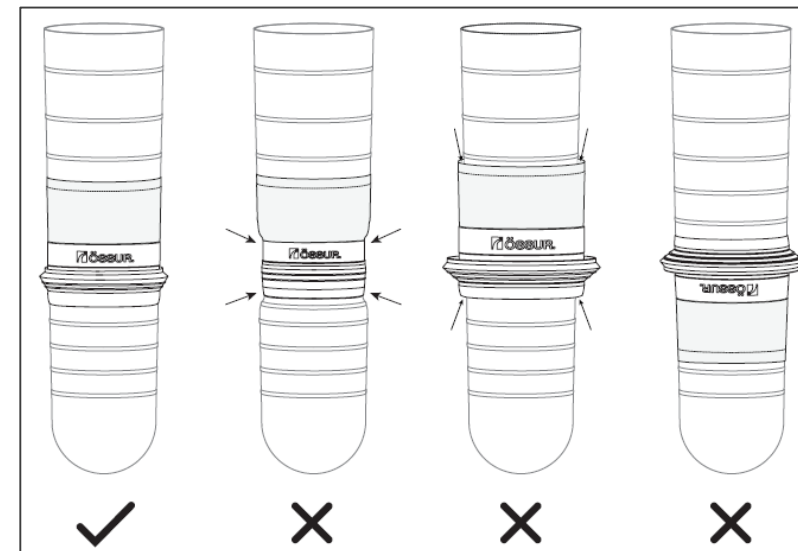

Figure 2
2. Assess for any deformation of the Seal-Ring and residual limb. The Seal-Ring should sit securely in place without excessive compression (Figure 2).